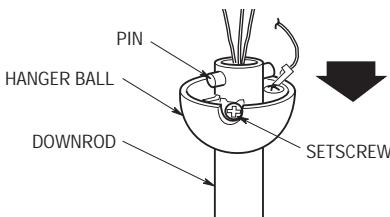

Figure 1
- 2. Remove the hanger ball from the downrod by loosening the setscrew in the hanger ball until the ball falls freely down the downrod (Figure 1). Remove the pin from the downrod, then remove the hanger ball. Retain the pin and hanger ball for reinstallation in step 9.